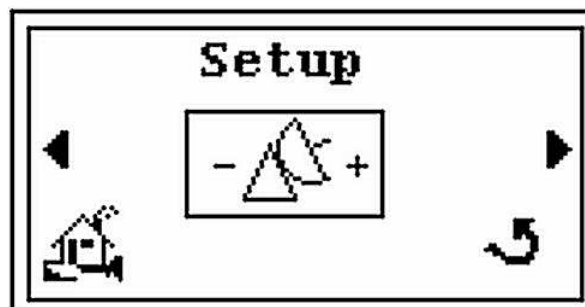

Figure 2-20 Setup Screen
3. Press the ► and the *Setup* screen appears (Figure 2-20).